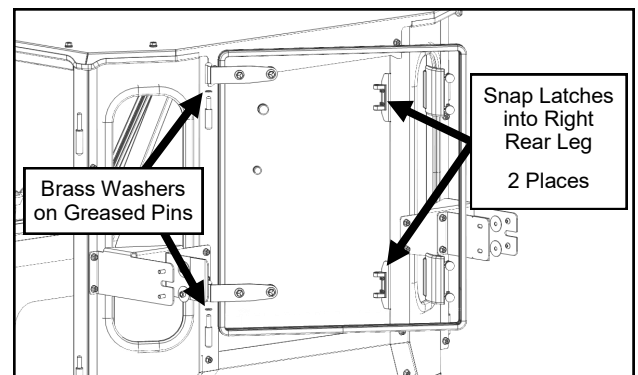

Fig. 14.2 (Hang Rear Window)
- 14.2** Grease the hinge pins for the rear window, and slide on greased brass washers (one washer per pin). See Figure 14.2.